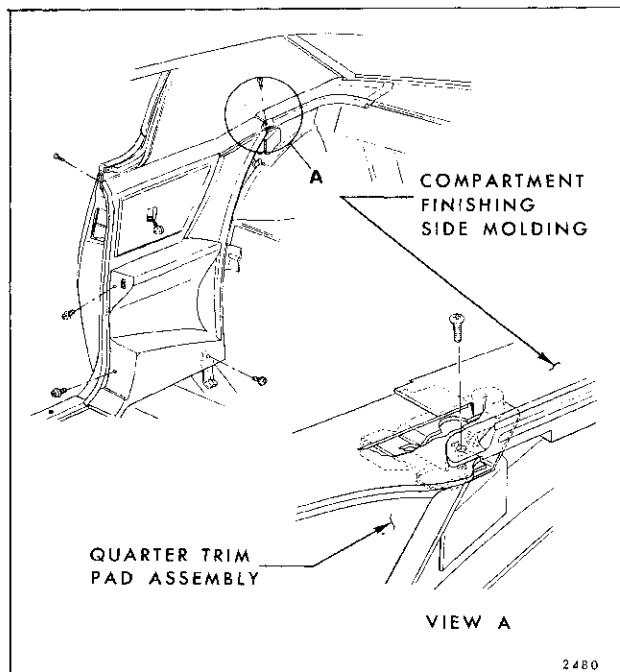

Fig. 14-23—Rear Quarter Trim Assembly - Cadillac “E” Styles
4. On Cadillac "E" Styles, remove screw securing compartment side finishing molding to quarter trim (Fig. 14-23).